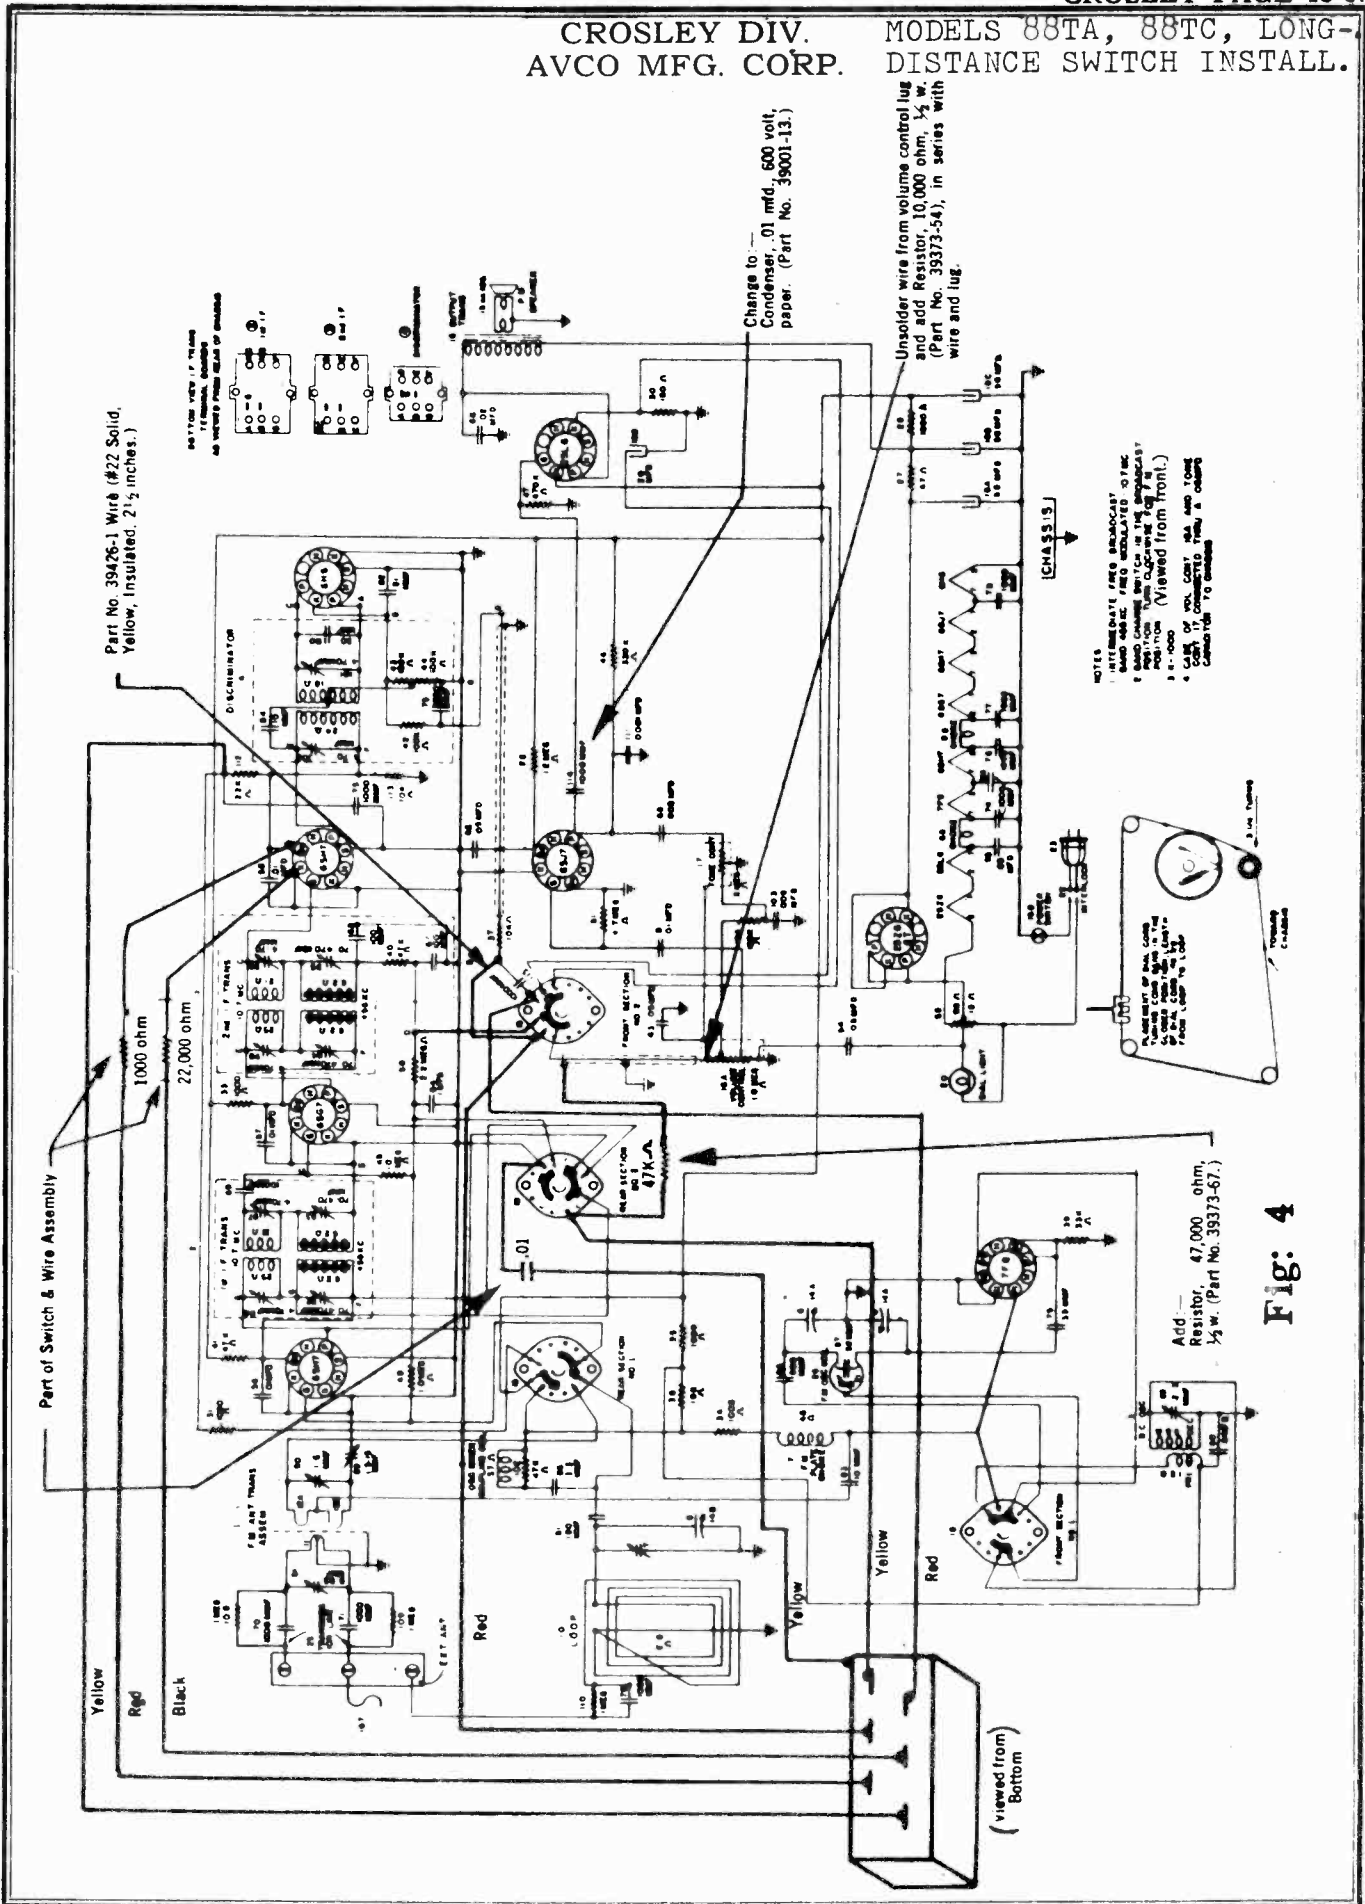

Fig: 4
(d) With reference to Fig. 4, solder the 22,000 ohm resistor, from the black wire, to lug 5 and the 1000 ohm resistor, from the red wire, to lug 6 of this 6SH7 socket. Be sure to slide the two pieces of tubing over the resistors, permitting it to cover the soldered connections to the wires.
(e) The yellow wire must be soldered to the junction of the 22,000 ohm resistor (item 112, Fig. 4) and 1000 mmf., condenser (item 73, Fig. 4), which is secured to the center lug (viewed in chassis) of the discriminator transformer.
(m) Remove the condenser (item 114, Fig. 4) and replace it with a .01 mfd. condenser (part No. 39001-13).
(n) The remaining red wire from the local-distance switch and one end of the 2 1/2 inch piece of yellow insulated wire (Part No. 39426-1) should be soldered to the fifth lug of the front portion of band switch section No. 2. The other end of the 2 1/2 inch piece of wire must be soldered to the junction of resistor (item 37, Fig. 4) and condenser (item 115, Fig. 4).